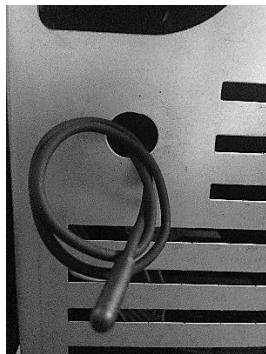

Figure 18 - Room temperature probe
- As salamandras a *pellets* They have a probe to measure the ambient temperature. This probe is fixed to the grille at the back (see Figure 18). For the most accurate reading of the ambient temperature, avoid contact of the probe end with the machine frame. If you wish, you can also fix it on the wall next to the machine.